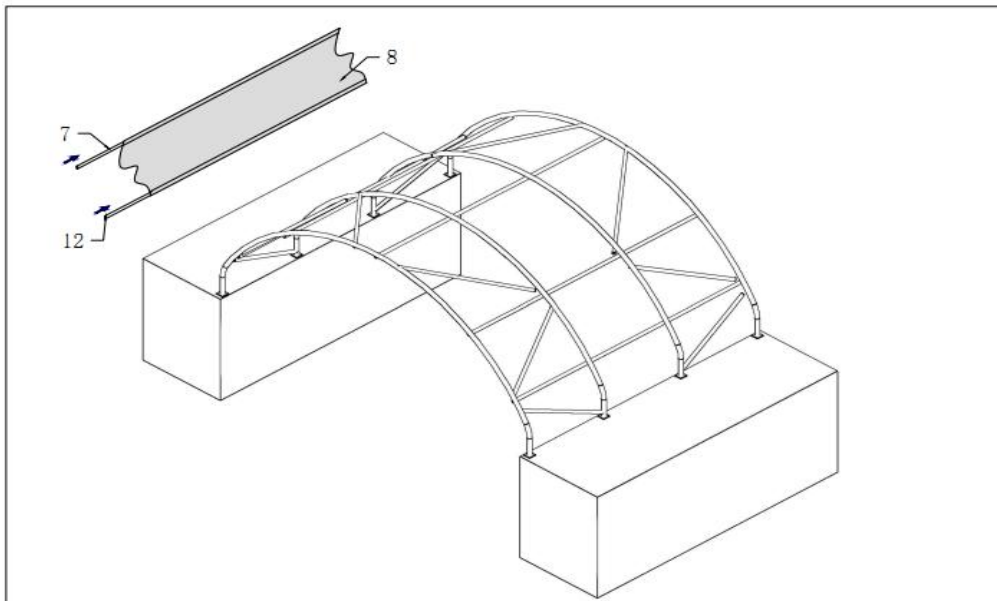

Figure 4
1. As **Figure 4 shown**, before assembly the roof cover, please insert the lower tensioning tube (part code7) into the pockets on end of the roof cover. And also put on the plastic plug.(part code12).